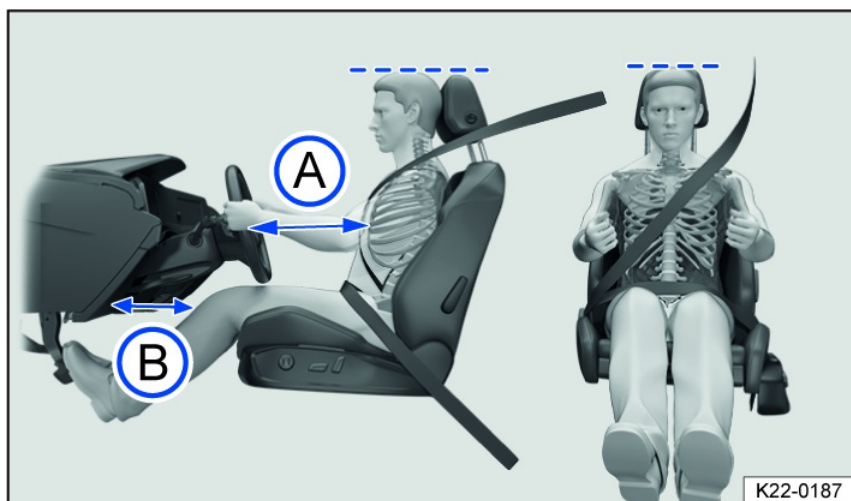

Fig. 28 General example: correct distance between the driver and the steering wheel, correct safety belt routing and correct head restraint adjustment.
- Adjust the head restraint so that the upper edge of the head restraint is in line with the upper portion of the head as much as possible, but not lower than eye level. Position the back of the head as close as possible to the head restraint *fig. 28*.
- Adjust the forward/back position of the driver seat so that you can press the pedals while your legs are slightly bent and there is at least 10 cm (around 4 inches) of space between the instrument panel and your knees *fig. 28*.
- Adjust the steering wheel so that the distance between the steering wheel and your chest is at least 25 cm (around 10 inches) *fig. 28* and you can hold the steering wheel firmly at the sides with both hands and your elbows slightly bent.